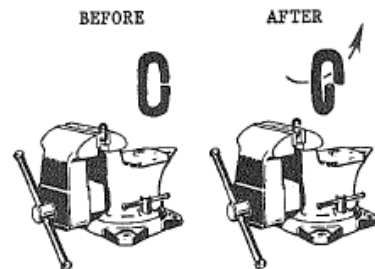

FIGURE 6
- Using adjustable wrench, twist link horizontally from front to back (Figure 6). Open just far enough to insert (or remove) a second chain link.